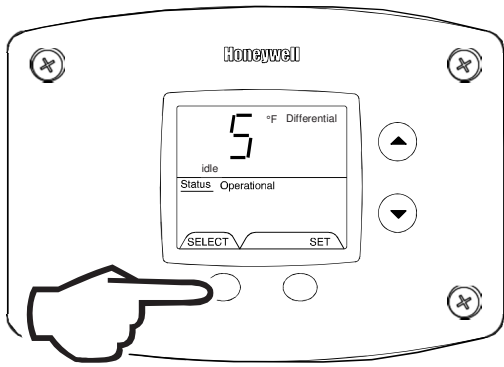

Fig. 36
- 6. Differential (Display only – shows the differential of the thermostat) (Fig. 36).